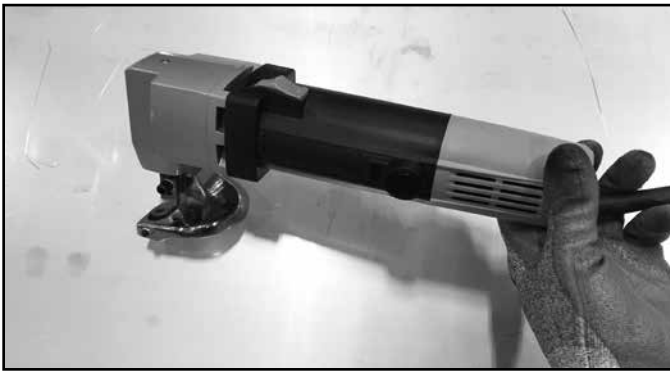

Figure 6
8. Mark the dimensions on the surround and cut to size. An electric shear like the one shown in Figure 6 is a good option for a clean, burr free, cut.